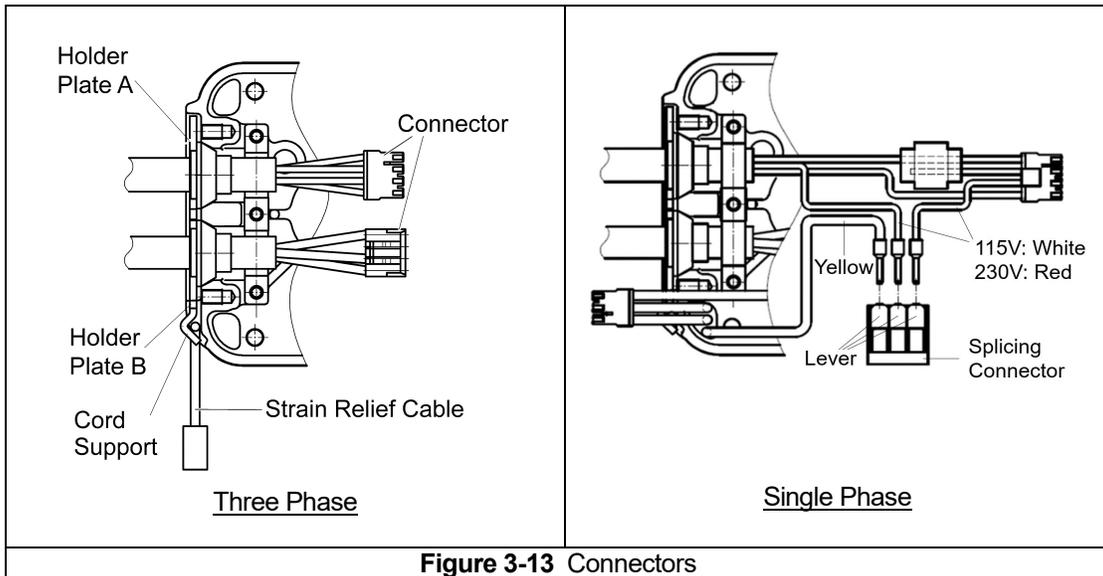

Figure 3-13 Connectors
- Disconnect the connectors inside the hoist (see **Figure 3-13**).
- Pull up the orange levers of the splicing connector attached on the Power Cable and disconnect all the three lead wires (yellow and white or red) (see **Figure 3-13**).
- ⚠ CAUTION** When mounting Holder Plate B, ensure that the Strain Relief Cable is secured by the Cord Support (see **Figure 3-13**).